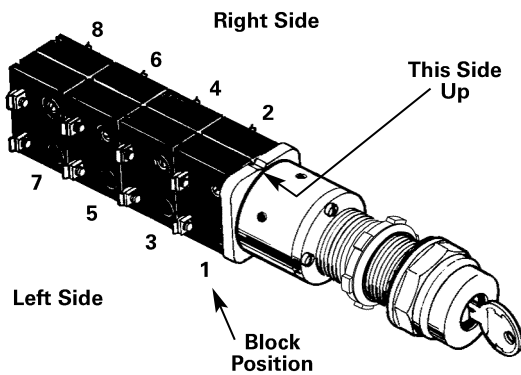

Figure 3
3. Assemble contact blocks on the side of the operator (see Figure 3) indicated in the "Contact Block Location" column and in accordance with the contact arrangement desired.
- L – Left Side – Figure 3